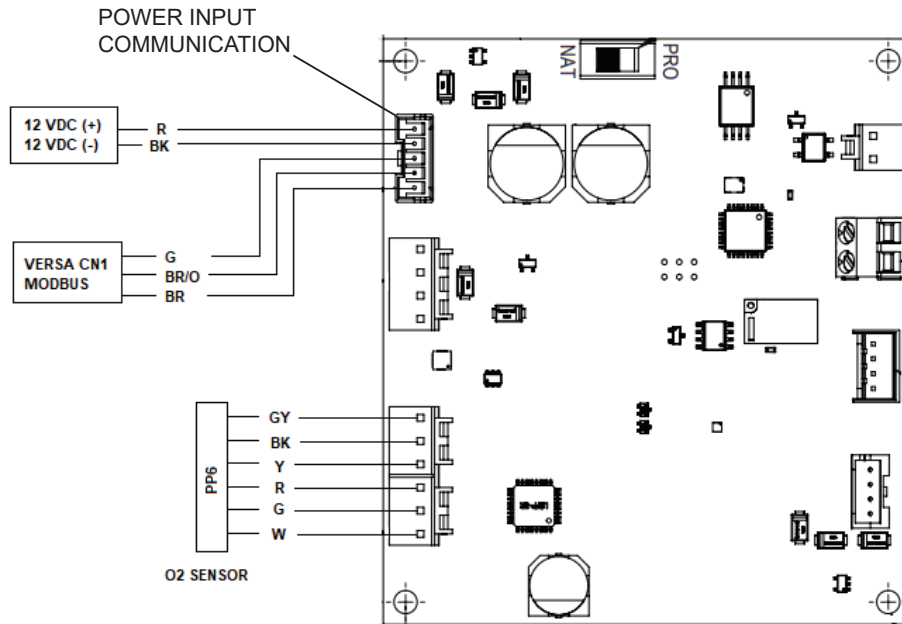

Figure 89. HO₂T Monitoring System Wiring Diagram
3. **Harnesses** - There are two (2) harnesses for the O₂ monitoring system inter-connecting O₂ components with the boiler's components. See **Figure 89** for wiring diagram.
There are two (2) harnesses for the O₂ monitoring system. See **Figure 89**.